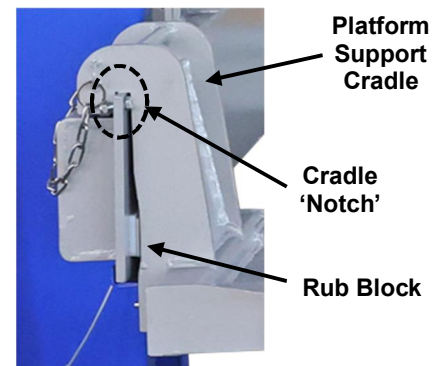

Fig. 12
- 2) Using a forklift, dolly, or pallet jack, position the (right & left) platform to bolster beam's specific side and carefully hang onto the bolster beam, ensuring the notch at the top of the platform's support cradle is fully seated onto bolster beam. **Fig. 12** (The nylon rub block mounted to the backside of the platform support cradle is designed to support loads, while also allowing the ease to adjust platforms.) **Fig. 12.**